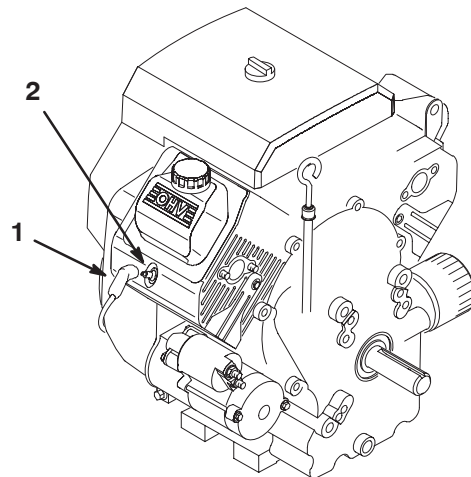

Figure 30
- Pull the wires off the spark plugs (Fig. 30).
4. Push the wires onto the spark plugs (Fig. 30).